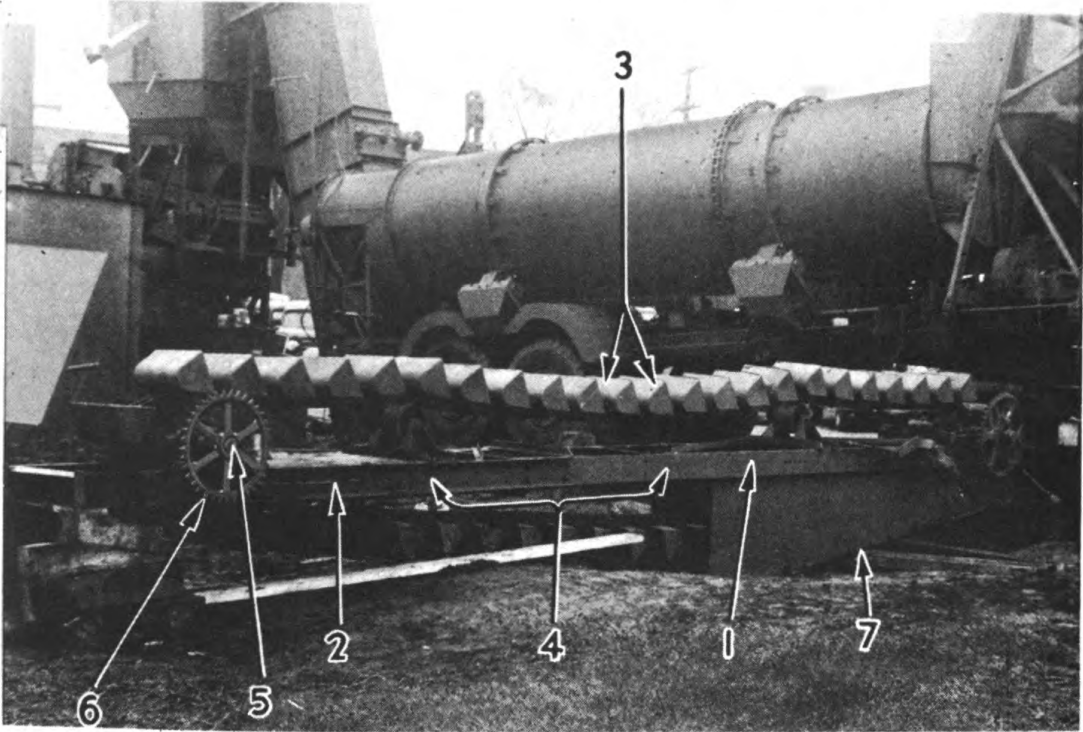

FIG. 8 - "ASSEMBLED COLD ELEVATOR BEFORE HOISTING INTO OPERATING POSITION.
The elevator is shipped knocked down in three sections consisting of the upper frame section, lower frame section, and bucket line. Assembly consists of bolting the two frame sections together and installing the bucket line. To assemble the two sections, the upper frame section (1) Fig. 8, is telescoped into the lower frame section (2). The telescoping joint allows the overall length of the elevator to be increased or shortened as necessary to fit existing erection conditions. A series of holes (4) in both frame sections is provided for bolting the sections together at the desired position. When assembled, the elevator is hoisted in place by means of two chain hoists (furnished with the dryer) or a crane, if available. Detailed instructions for assembly and erection are contained in the Erection Section.
The bucket line consists of a series of malleable iron buckets (3) Fig. 8, spaced 12" apart and bolted to a strand of steel roller chain. The buckets are charged with aggregate as they round the footshaft and begin the upward run toward the headshaft. The aggregate is discharged from the buckets as they round the headshaft and begin the downward run.
The elevator footshaft (5) Fig. 8, is bolted rigidly to the lower conveyor frame and is not adjustable. The bucket line sprocket (6) on the footshaft is also split for convenience in replacing. One end of the footshaft is extended to take the reciprocating feeder drive sprocket. This sprocket and drive are enclosed in a chain guard to prevent aggregate from getting into the drive.
The spillage return chute (7) Fig. 8, is bolted to the under side of the cold elevator frame and extends from the discharge spout downward to a point about half way down the elevator frame. Its function is to divert any spillage from the buckets back to the elevator foot end.